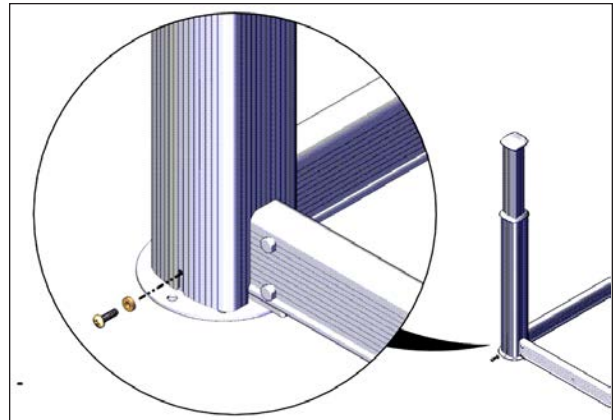

FIGURE 47: MOUNTING SCREW ON THE SLEEVE
20. Fasten the sleeve with the Phillips M6 x 20 mm screws at the bottom of all four sleeves see Figure 47.